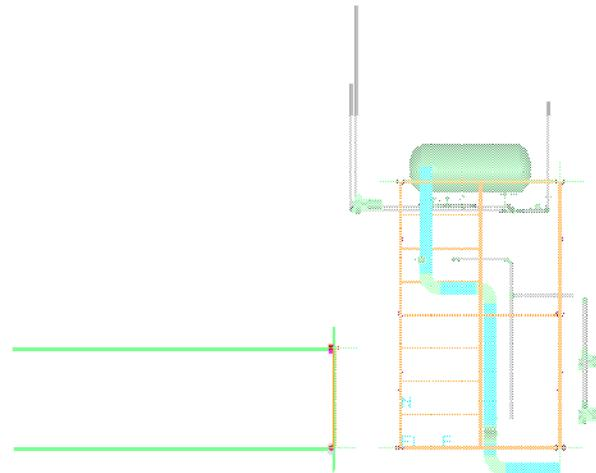

Figure 6: Active View After Clicking the Fit Button
- To fit all objects retrieved by the volume filter in the active view, click the **Fit** button on the **Common** toolbar. The view will look like Figure 6.